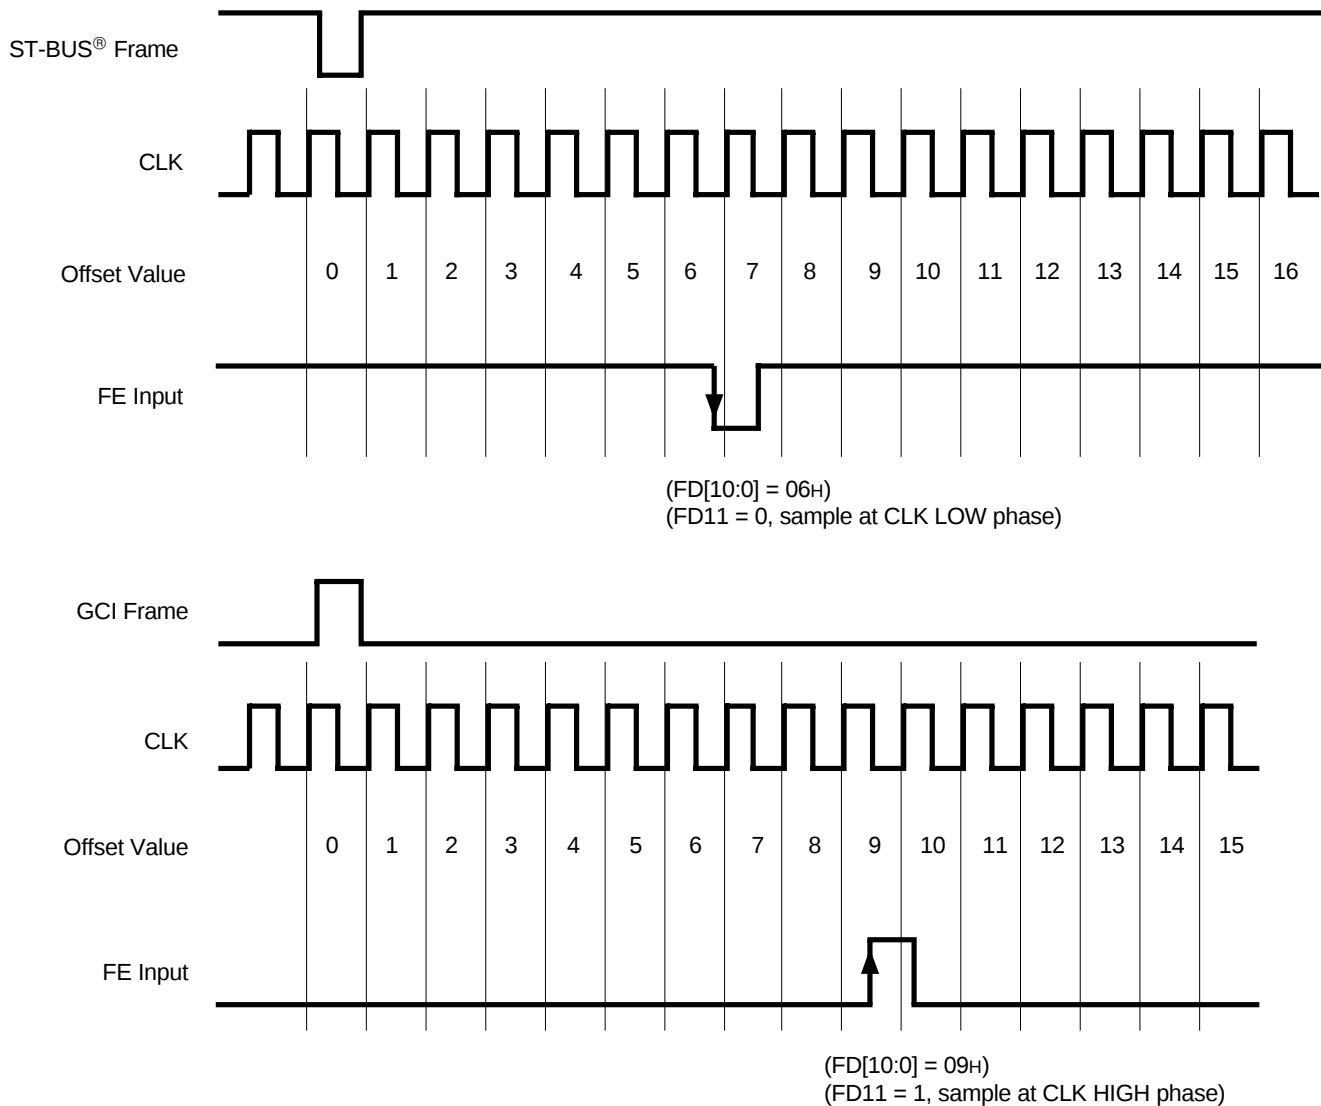

Figure 1. Example for Frame Alignment Measurement
In ST-BUS[®] mode, the falling edge of the frame measurement signal (FE) is evaluated against the falling edge of the ST-BUS[®] frame pulse. In GCI mode, the rising edge of FE is evaluated against the rising edge of the GCI frame pulse. See Table 7 and Figure 1 for the description of the frame alignment register.
OFn2, OFn1, OFn0 (Offset Bits 2, 1 & 0)	These three bits define how long the serial interface receiver takes to recognize and store bit 0 from the RX input pin: i.e., to start a new frame. The input frame offset can be selected to +4.5 clock periods from the point where the external frame pulse input signal is applied to the $\overline{FOI}$ input of the device. See Figure 1.